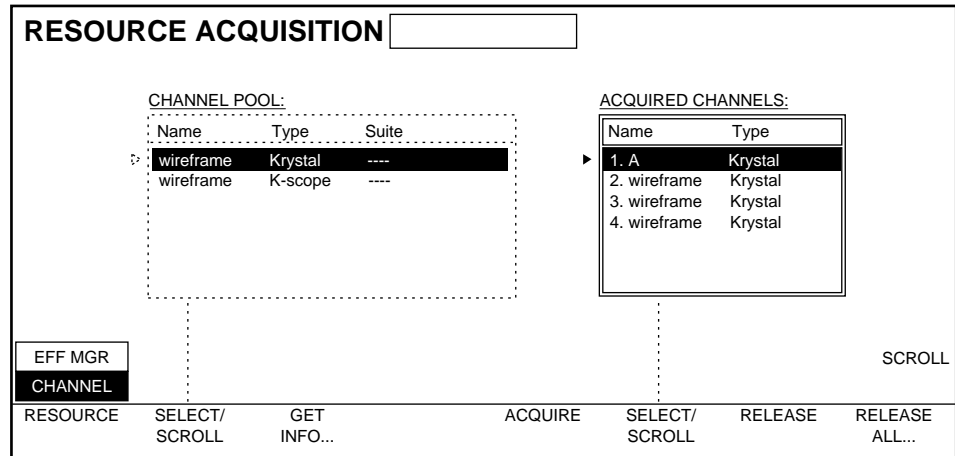

Figure 3-8. Single Channel System, Channel Acquired
- a. On single channel Krystal systems the Video Processor Channel will automatically be acquired along with the Effect Manager. Check this by pressing RESOURCE to select CHANNEL. The acquired channel should appear in the ACQUIRED CHANNELS list on the right. (Figure 3-8).